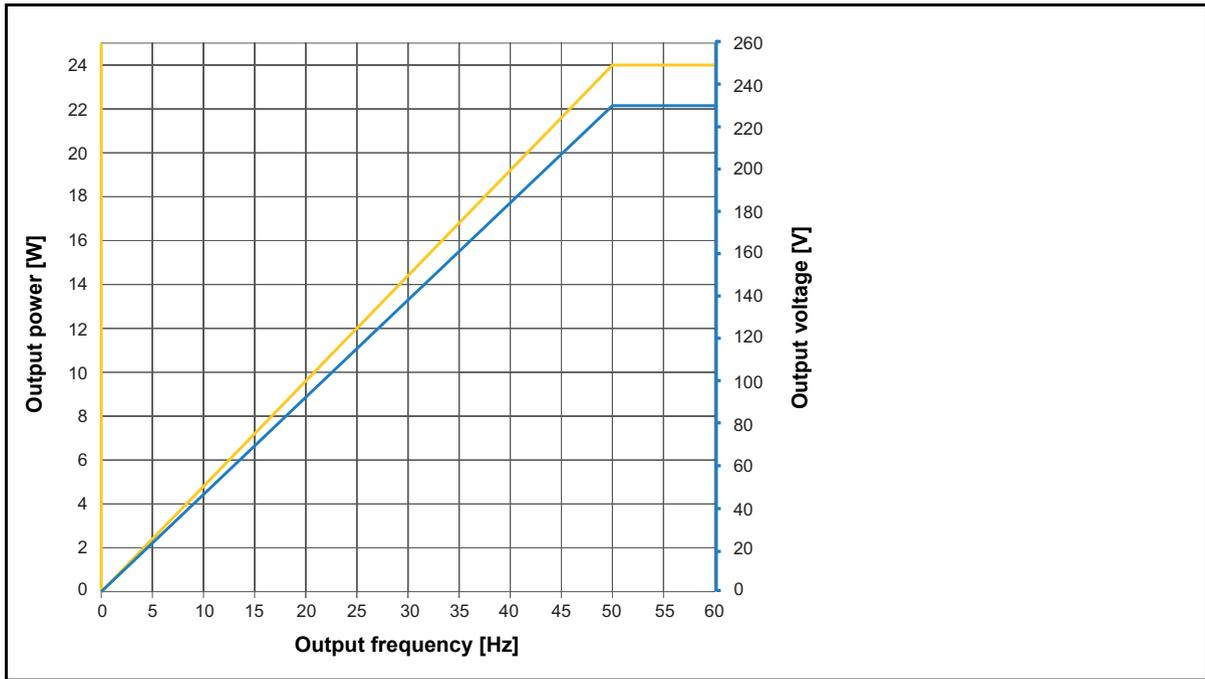

Figure 15-5: Derating of output power and output voltage 3 x 230 V_{RMS}
3. See Figure 15-5: "Derating of output power and output voltage 3 x 230 V_{RMS}" on page 223